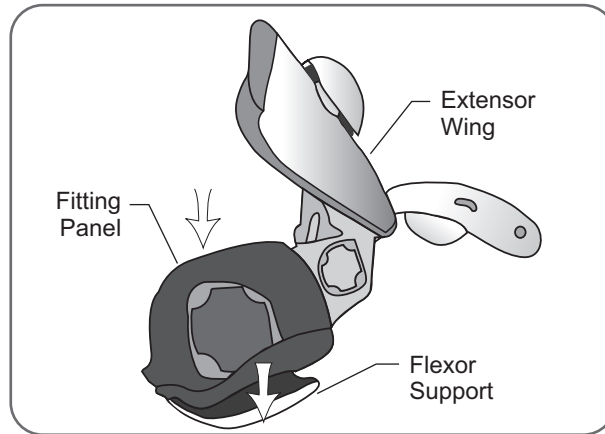

Figure 5-9: Reattaching the Flexor Fitting Panel
1. With the Orthosis wing open, align the flexor fitting panel to the flexor support. See Figure 5-9.